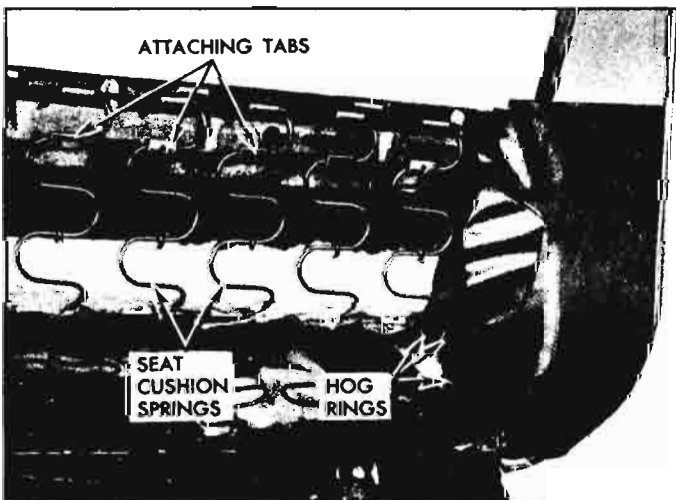

Fig. 10-72—Front Seat Cushion Spring Attachment.
3. Raise trim and remove cardboard breakover foundation to expose seat cushion spring attachment to seat back frame along rear of seat and hog rings securing ends of seat back trim to seat bottom frame (see Figure 10-72).
5. Bend open tabs (fig. 10-72) securing seat cushion spring assembly to seat back frame and carefully disengage springs from tabs.